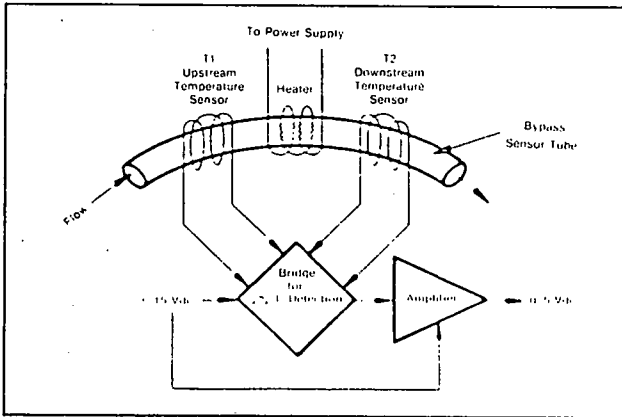

Figure 3-1 Flow Sensor Operational Diagram
A precision power supply provides a constant power heat input (P) at the heater, which is located at the midpoint of the sensor tube. Refer to Figure 3-1. At zero, or no flow conditions the heat reaching each temperature sensor is equal. Therefore the temperatures T1 and T2 are equal. When gas flows through the tube the upstream sensor is cooled and the downstream sensor is heated, producing a temperature difference. The temperature difference T2-T1, is directly proportional to the gas mass flow.